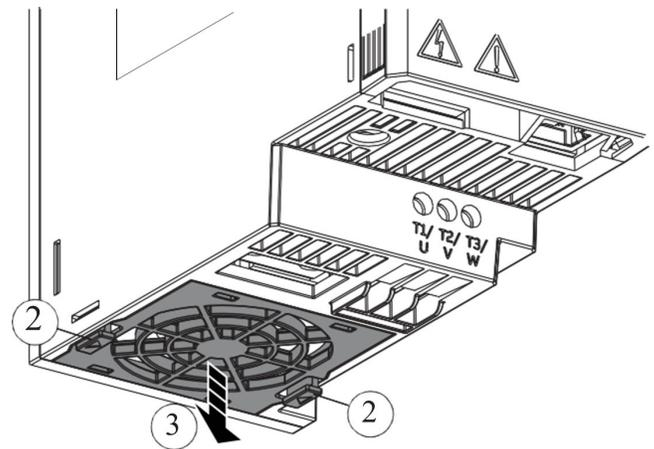

Fig. 50 — Lifting the Fan Cover out of Drive
- Carefully lift the fan cover out of the drive. Note that the fan cover holds the cooling fan (see Fig. 50).